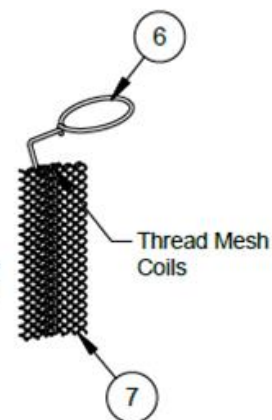

Figure 4c
Step 4: Continue to thread the Hook (6) through 4-5 bunched Coils (7). (Fig. 4c)